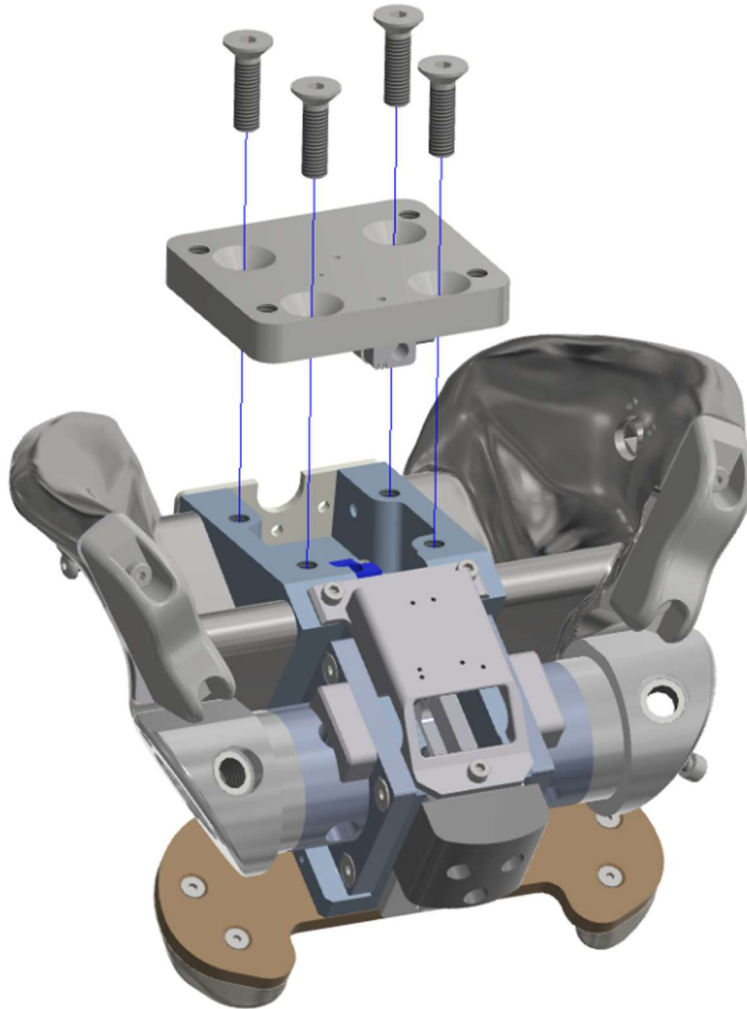

Figure 8-50. Mount Upper Torso to Pelvis Adaptor Plate (474-4004) to the Center Pelvic Bone (474-4541)
8.3.20 Mount the Upper Torso to Pelvis Adaptor Plate (474-4004) to the Center Pelvic Bone (474-4541), using four M8 X 1.25 X 30 FHCS (Figure 8-50). The accelerometers are oriented in the following manner: +X forward, +Y right, +Z down. This sign convention agrees with the SAE coordinate system. The ARS and accelerometer wires will exit the back of the pelvis, in the cutout of the Rear Pelvic Instrumentation Cover (474-4001).